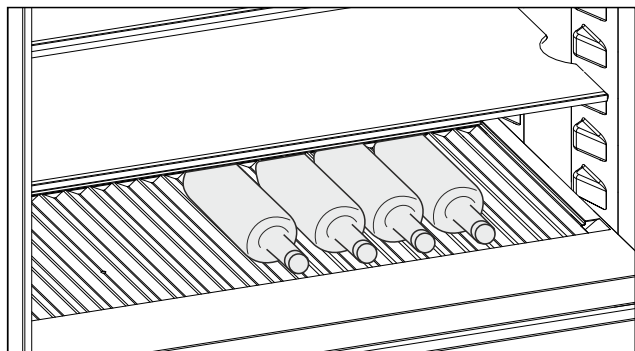

Fig. 167 Example illustration
- Place bottles in the back row with their bases against the back wall. (see Fig. 167)